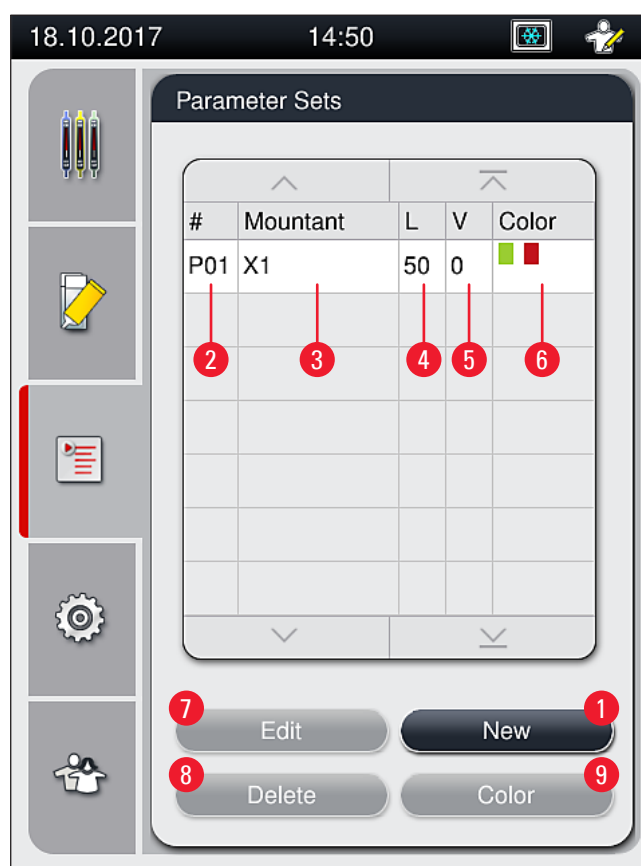

Fig. 43
- The parameter set menu (→ Fig. 43) lets the user create new parameter sets, modify existing ones or assign a rack handle color to a parameter set. Creating or modifying a parameter set requires having the **Supervisor** user status and is only possible if there is no rack in the instrument and the instrument is idle.
- ✓ The newly created parameter set is now saved and can be selected in the parameter set menu (→ Fig. 43).